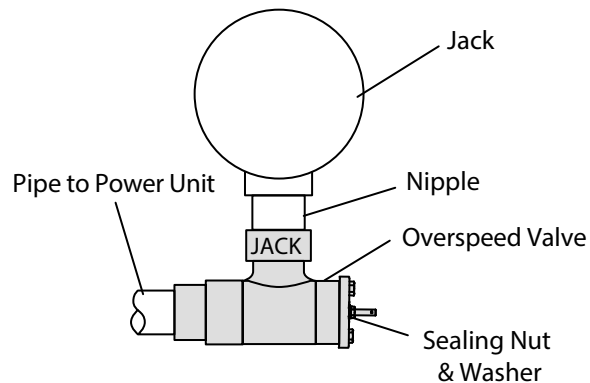

Figure 30 - 2" Overspeed Valve (90° shown, in-line available)
1. Install the overspeed valve within 12" of the jack. See Figure 30 for proper orientation of the valve.